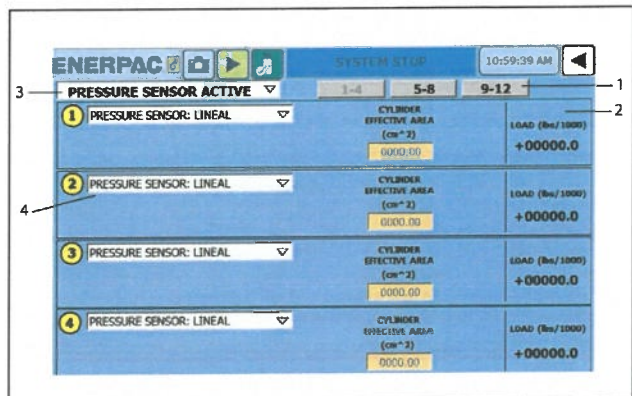

Figure 24: Cylinder load sensor screen detail
- **Pressure Sensor Lineal:** Other way to measure load weight is through pressure sensors. To make the calculation, the cylinder effective area is required. Refer to Figure 24 for detailed view of this mode.